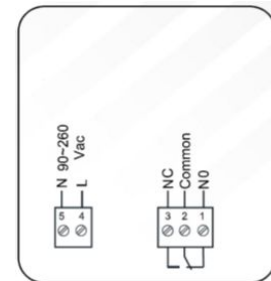
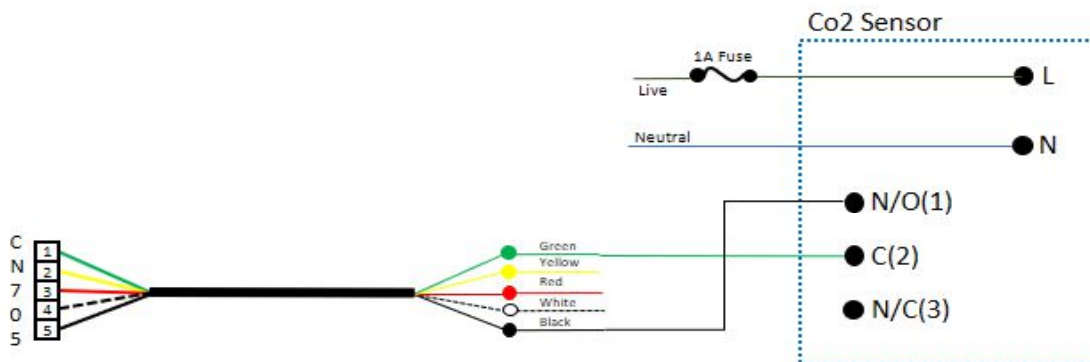

Fig 10
Fig 11
- Connect the “Green - Common” cable from the interface lead to the “C” common terminal at the CO2 sensor, connect the “Black - ON” to the N/O (1) terminal at the CO2 sensor, (fig 10/fig 11). The unit defaults on start-up to High Fan Speed.